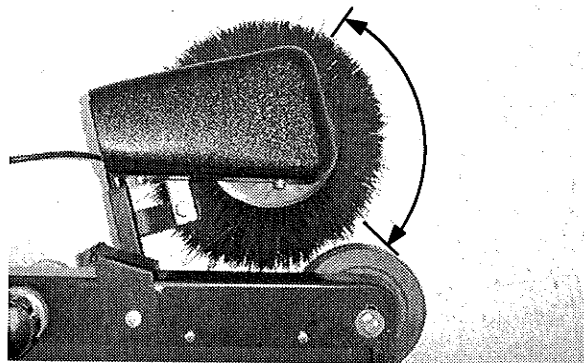

FIG. 24
1. For optimum cleaning results, adjust side brush height so the outer 1/3 of the brush bristles touch the floor (Figure 24).